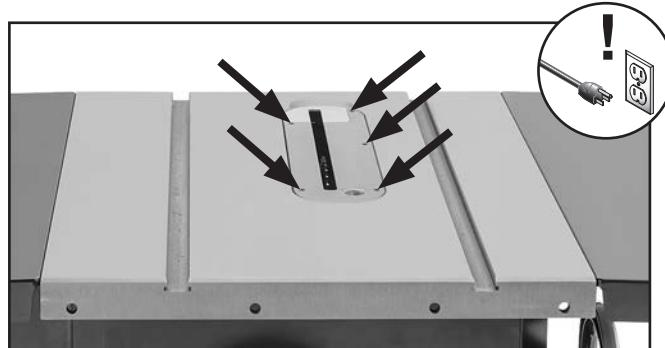

Figure 134. Adjustment screws location.
The table/dado insert must sit perfectly flush with the table to provide a smooth, continuous surface for the workpiece to slide over. The insert is held in place by a magnet and sits on top of five adjustment screws (see **Figure 134**). The insert should be checked and adjusted any time it is removed, after prolonged use, or when the workpiece does not slide smoothly across the insert.
3. Insert screwdriver through holes shown in **Figure 134** and either loosen screws to raise insert, or tighten screws to lower it. Repeat **Steps 2–3** until insert is flush with table.